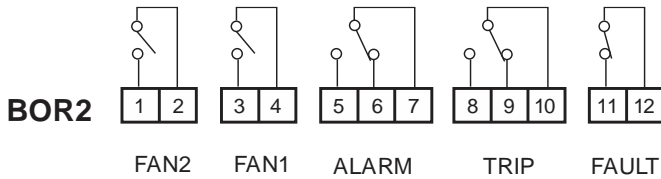
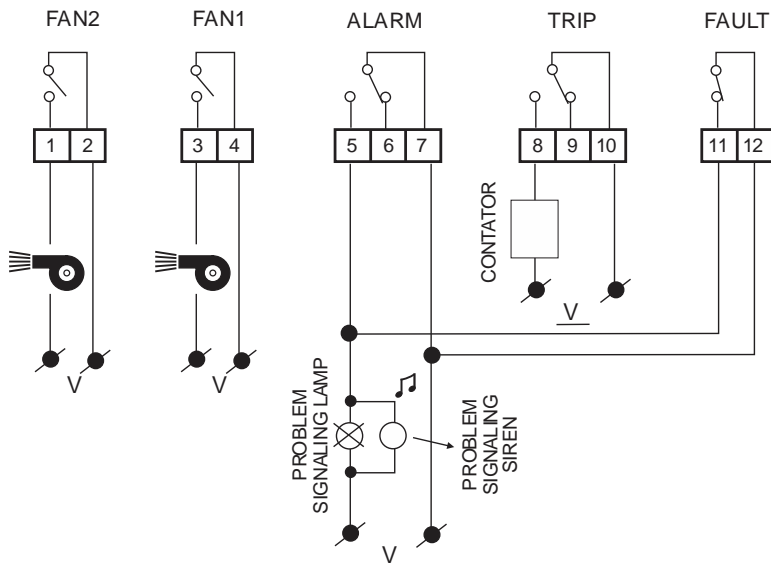

Figure 3 - Alarm, trip and fan relay connections
Figure 6 – Wiring diagram
- It reads the sensors on the channels S1, S2, S3 and Tamb. If some of them arrives above the programmed value of ALARM for 5s, the ALARM led will light up. If it persists for more than 15s, ALARM relay will be activated, contacts closed between pins 5 and 7 (Figure 3). If the key  is pressed for more than 5s, the ALARM relay will open the contacts 5 and 7 (this feature is useful in the case of ALARM relay is connected to a siren and the user want to stop the sound), although led ALARM will remain lit up till the measured temperature of all sensors goes down the programmed value of ALARM. In the case of turned-off by the user, the ALARM relay will activates again only when a new alarm condition occurs.
- If the temperature continues to increase and one or more sensors exceeds the value programmed in TRIP by 1°C for 5 s, the TRIP led will light up. If the situation persists for more than 15 seconds, the TRIP relay will be activated, contacts closed between pins 8 and 10 (Figure 3). When the TRIP is activated, ALARM is activated, since ALARM is a precondition for TRIP.
- When the temperature decreases by 1°C to the value programmed in TRIP, the TRIP led will turn-off and the relay will return to the previous condition, contacts opened between pins 8 and 10 (Figure 3).
- When the temperature decreases by 1°C to the value programmed in ALARM, the ALARM led will turn-off and the relay will return to the previous condition, contacts opened between pins 5 and 7 (Figure 3).
- PT100 sensors tests: The possible failures to detect are PT100 sensor open or short circuit. If a fail is detected, the message **FLt** followed by the name of the sensors in fault condition (**S1**, **S2**, **S3** or **Tamb**) will appear on the display. The FAULT LED, together with the respective faulty sensor LEDs, will flash. The FAULT relay will close the contacts, contact is closed between pins 11 and 12 (Figure 3). If the faulty condition is solved, the FAULT led will turn off and the FAULT relay will open the contacts again, contacts opened between pins 11 and 12 (Figure 3).
- If any sensor exceeds the temperature of the parameter Fon for more than 15 seconds, the FAN1 relay will activate (Figure 3, contacts 3 and 4 closed). The relay will turn-off when the temperature of all sensors are lower than the programmed value of parameter Fof (Fan off). The same applies to the parameters of FAN2 and the relay FAN2 (Figure 3, contacts 1 and 2).
Figure 3 shows the pinout of the controller output relays. According to the diagram of Figure 6, the FAULT relay operates normally closed, which means that the controller will indicate a failure condition in the case of a power fault (no power supply on BOR3).